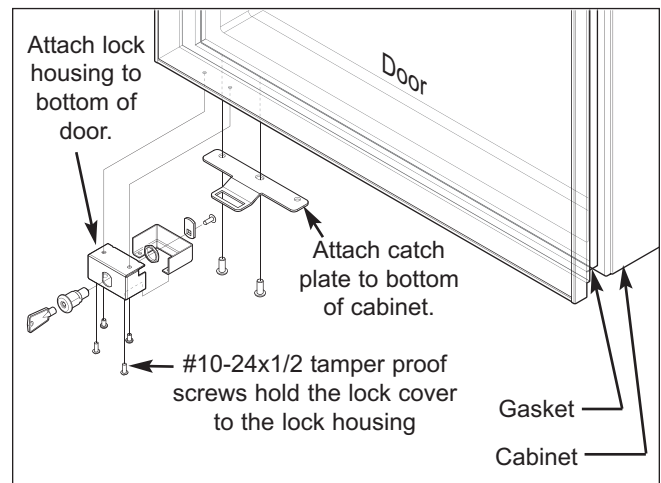

Figure 1. Attaching Catch Plate and Assembly
2. Using the two 5/16-18 x 3/4" tamper proof screws, secure the catch plate to the bottom cabinet hinge holes on the handle side of the unit (See Figure 1).
3. Extract two existing #10-24 cap screws from the bottom of the door and use them to fasten the lock assembly and housing to the bottom of the door through the same holes in which the cap screws were removed (See Figure 1).
4. Install the cam onto the lock using the #10 screw so that a clockwise rotation will lock the door (See Figure 1).
6. Slide the lock cover into position and secure it using two #10-24 x 1/2" tamper proof screws (See Figure 1).